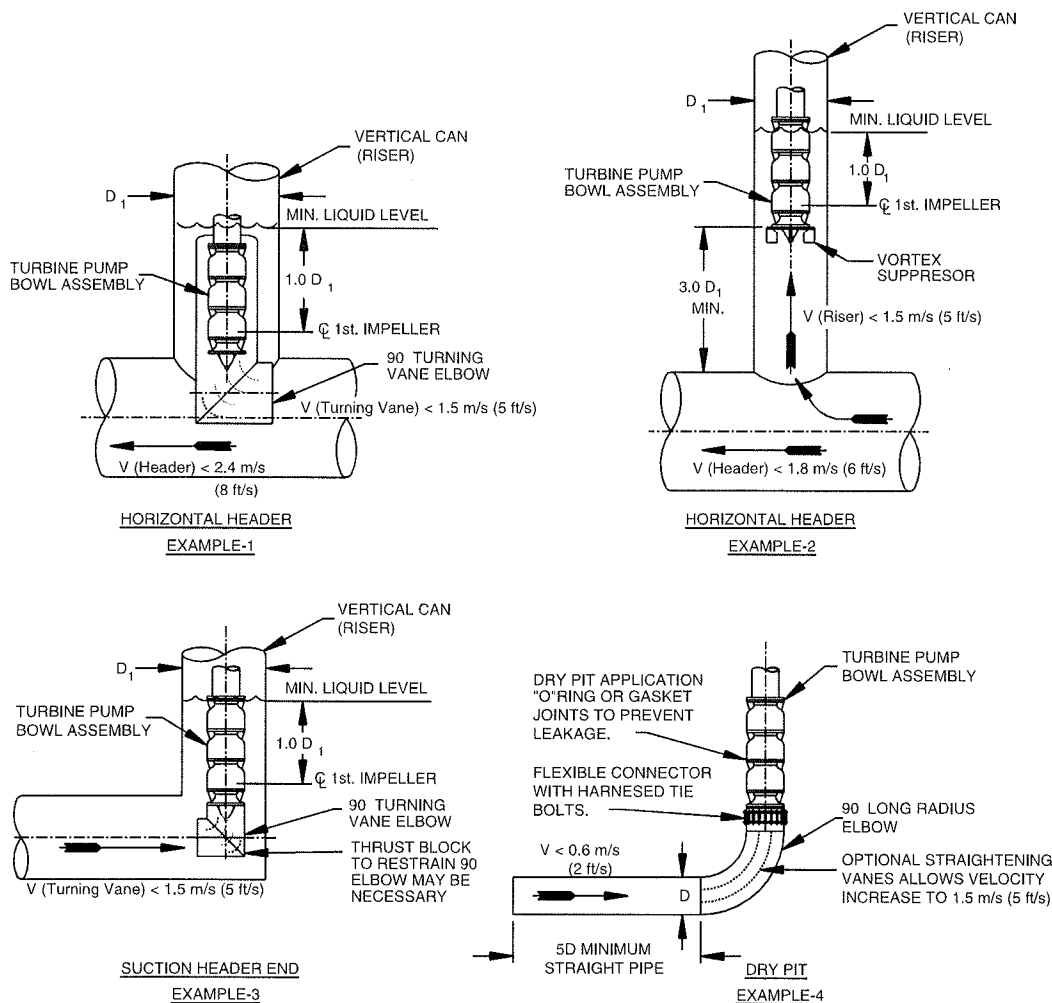

Figure 9.8.10 — Open bottom can intakes (pumps less than 315 l/s [5000 gpm])
9.8.2.6.4 Open bottom can intakes (Figure 9.8.10)